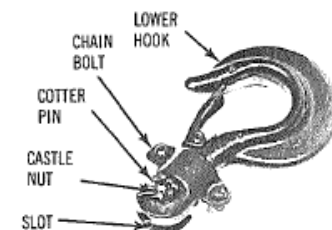

FIGURE 11
- Remove cotter pin from lower hook (Figure 11).